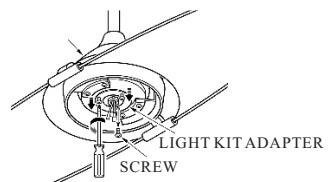

FIG.11
1. Remove 1 of 3 screws on light kit adapter, and loosen the other 2 screws. (See Fig.11)